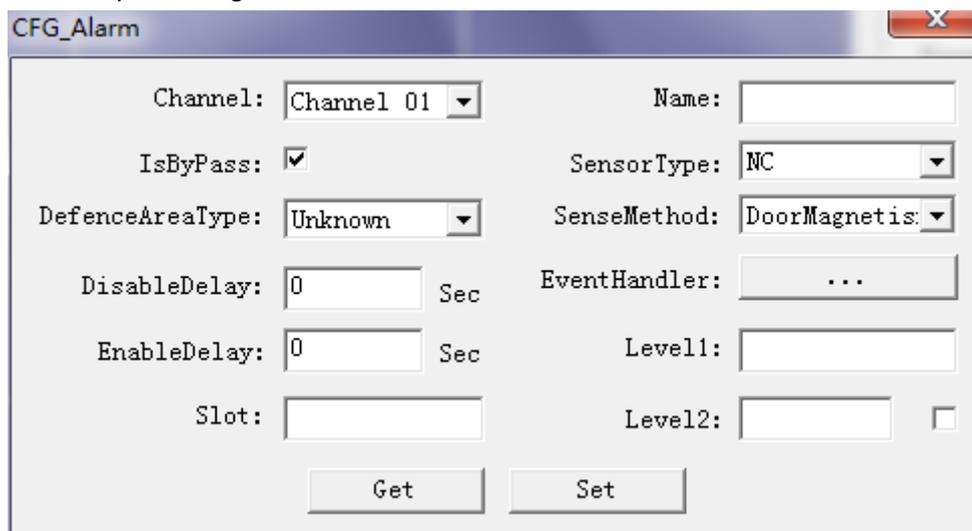

Figure 2- 9
Step 2. Click Setup. See Figure 2- 9.